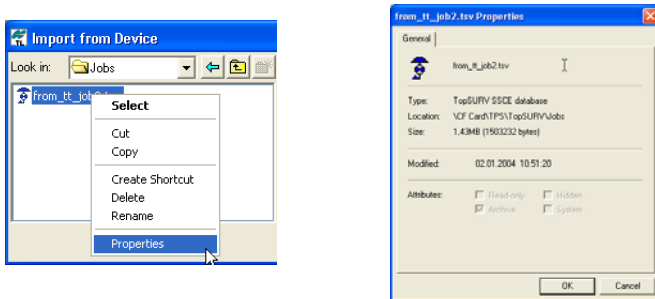

Figure 2-17. TopSURV File Properties
5. Select the folder where the (\*.tsv) file(s) is saved in the TPS Controller. To view file properties (Figure 2-17), right-click on the file and select *Properties* on the pop-up menu.